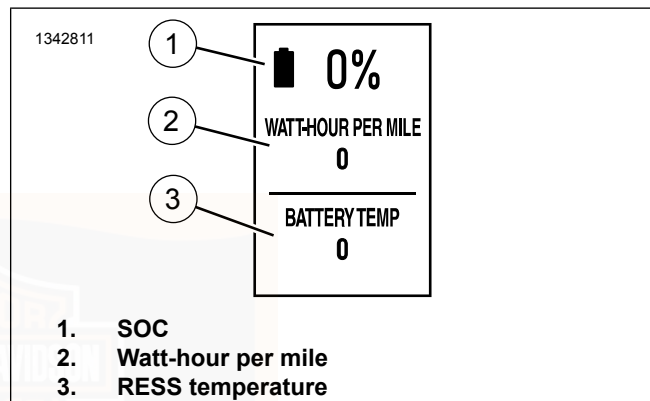

Figure 37. Battery Widget
See Figure 37. The battery widget displays SOC (1), watt-hour per mile (2), and RESS temperature (3).